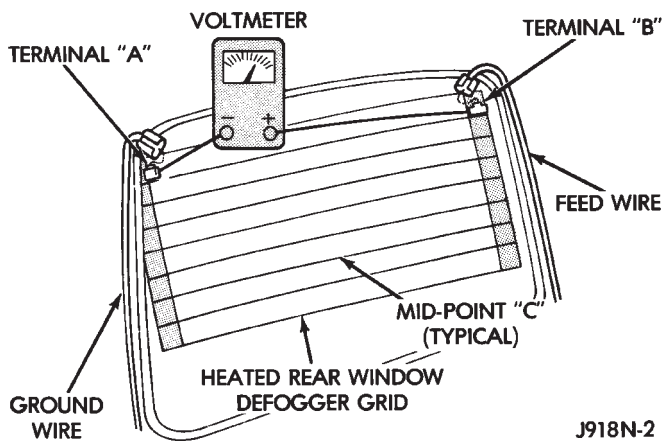

Fig. 1 Rear Window Glass Grid Test
3. Using a 12-volt DC voltmeter, contact the rear glass heating grid terminal A (right side) with the negative lead, and terminal B (left side) with the positive lead (Fig. 1). The voltmeter should read battery voltage.